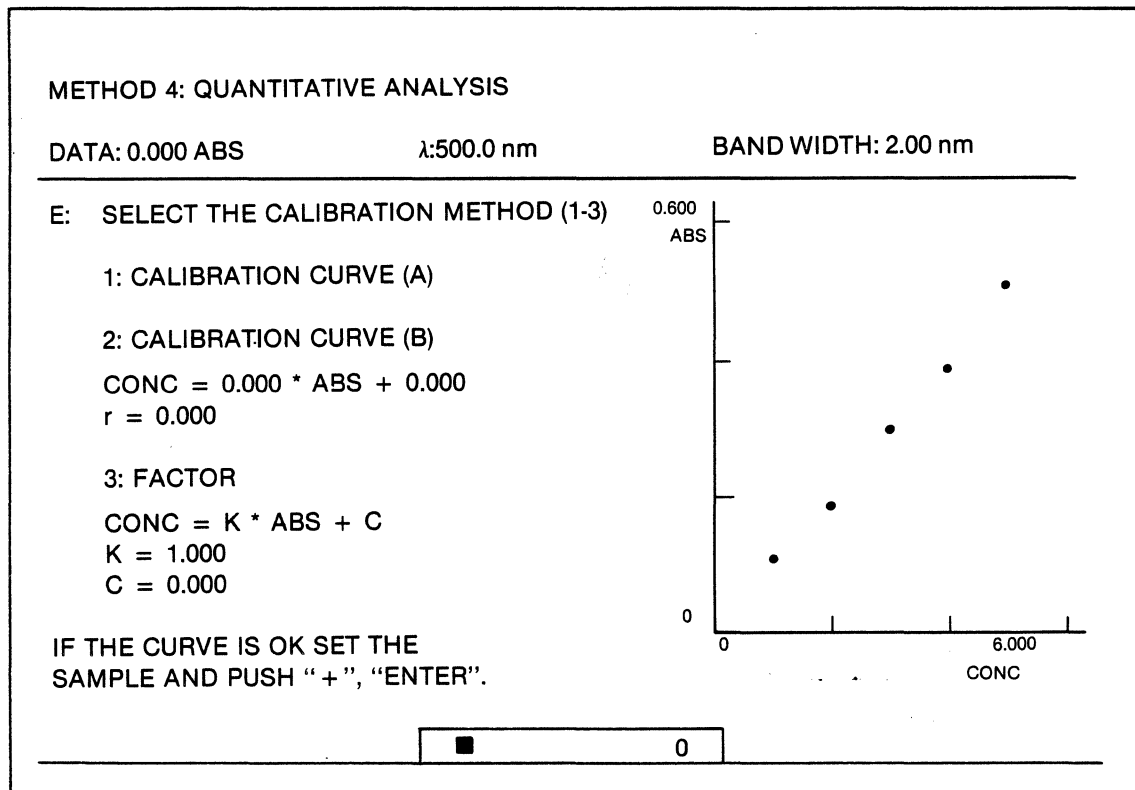

Figure 6-3. Calibration Curve Selection
When Phase E is entered, the second page of the Menu is displayed on the CRT. The data points collected for the calibration curve are plotted automatically, as shown in Figure 6-3.
1. The data will be displayed automatically on the CRT, as shown in Figure 6-3. After examining the point plot, select Option 1, 2, or 3.